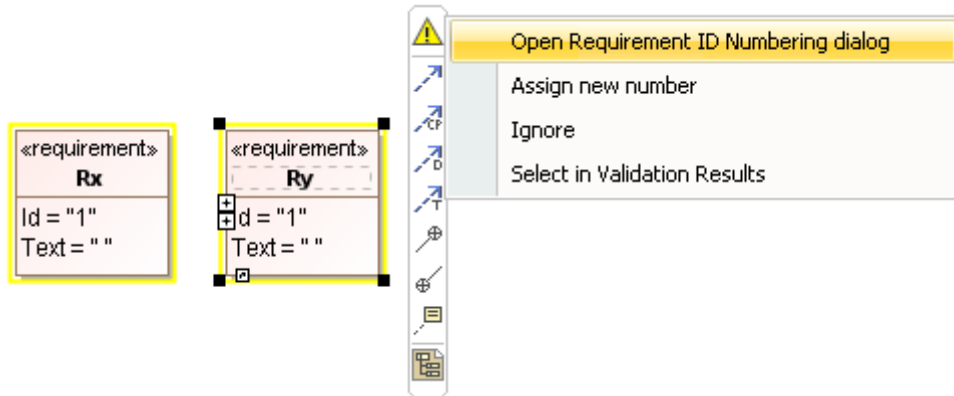
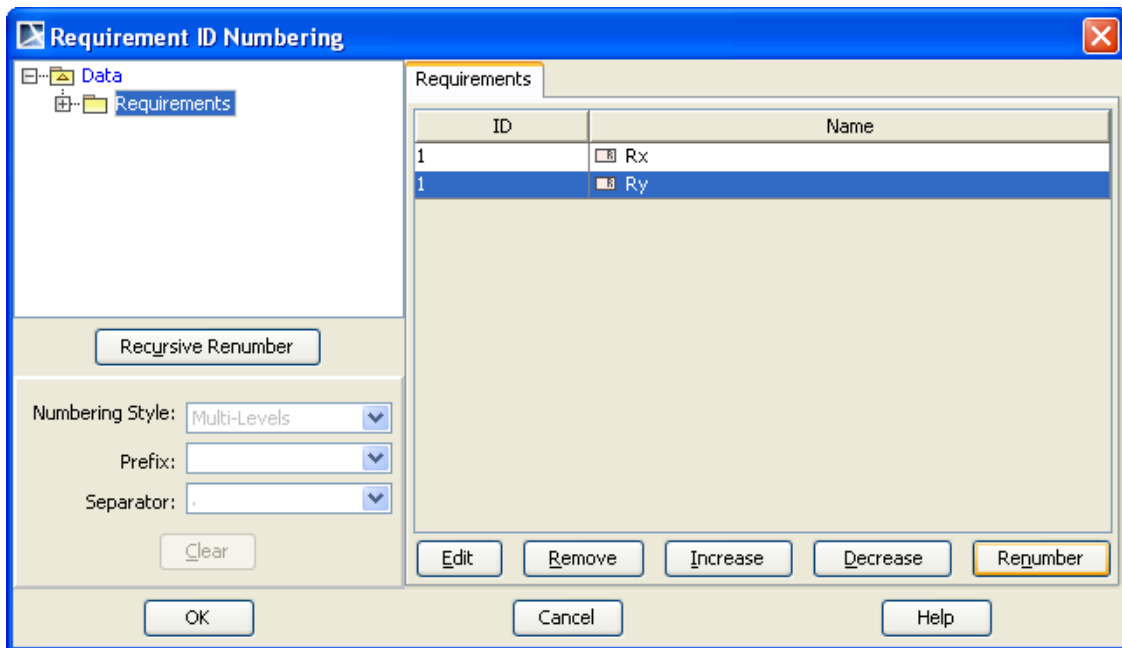
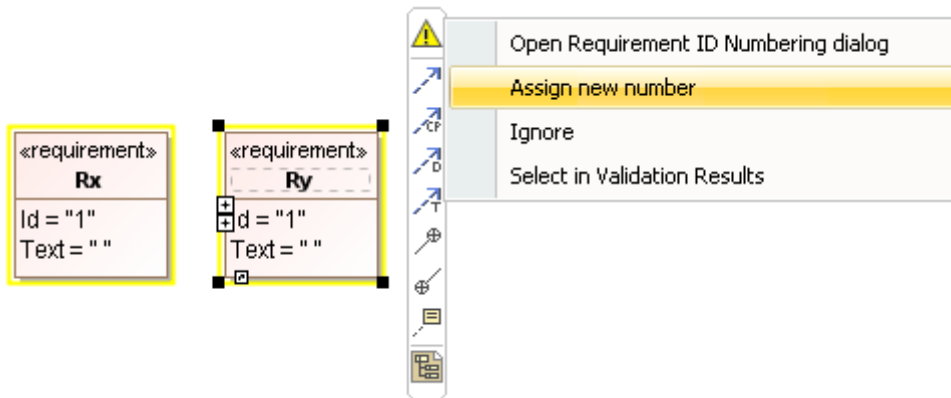

Figure 145 -- Suggested Solution for Open Requirement ID Numbering Dialog
Figure 146 -- Requirement ID Numbering Dialog
Figure 147 -- Suggested Solution for Assign New Number
When the ID of an requirement element is invalid with respect to the validation constraint 'Requirement[A]' (Requirement's ID must be unique), the requirement with invalid ID will be highlighted. When select such requirement, the requirement smart manipulator menu will also propose the suggested solutions (Figure 145, Figure 147):
1. **Open Requirement ID Numbering dialog** (Figure 145): this solution will open the Requirement ID numbering dialog. The selected requirement will be shown in the requirements list on your right hand side. The owner of the selected requirement will be selected on the tree in the panel on your left hand side (Figure 146)
2. **Assign New Number** (Figure 147): you can also use this solution to automatically re-assign the new requirement's ID to the selected requirement. The first available correct ID will be assigned to the requirement automatically.